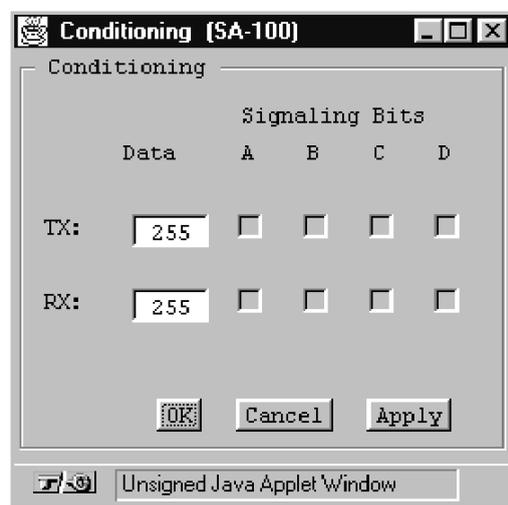

Figure 5-24. Conditioning Window
3. When you finish setting parameters, choose the Conditioning button. The Conditioning window appears (Figure 5-24).
4. Conditioning may also be modified. (See “Adding a CES Interworking Function to a Port” on page 5-54 and Figure 5-24 on page 5-58 for details on Conditioning.) Select the Conditioning button to open the Conditioning window. Make any necessary changes and click OK to return to the Modify window.